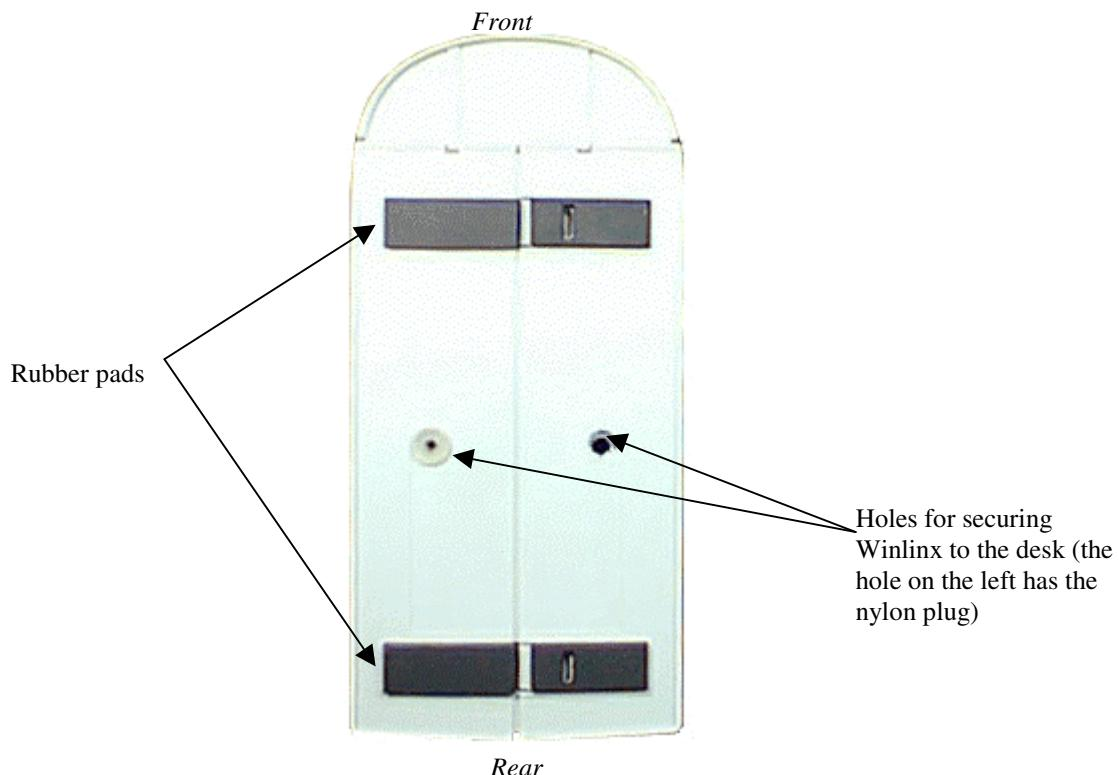

Figure 6: Base view of Winlinx
2. The base panel (*see Figure 6*) of Winlinx has two tapped-holes for securing the unit. One of the holes is closed with a Nylon plug. Lift the unit, hold it upright, pull out the Nylon plug and carefully place the unit on a flat surface.